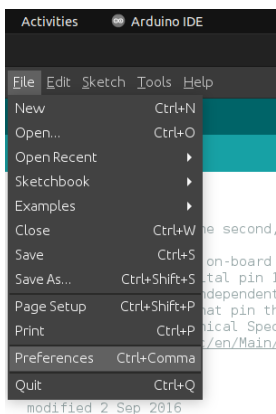
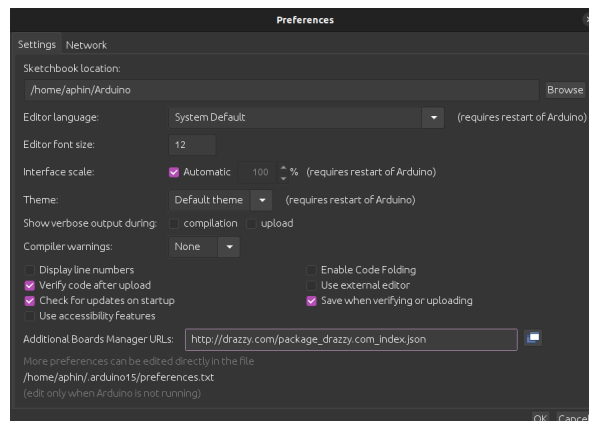

Fig.2
Fig.3
3. Install library of “megaTinyCore” by Spence Konde on to Arduino IDE, to add use the URL “[https://drazzy.com/package\\_drazzy.com\\_index.json](https://drazzy.com/package_drazzy.com_index.json)” library in the Arduino additional library option present in “Files --> Preferences(Fig.2) --> Additional Boards Manager URLs (Fig.3)”